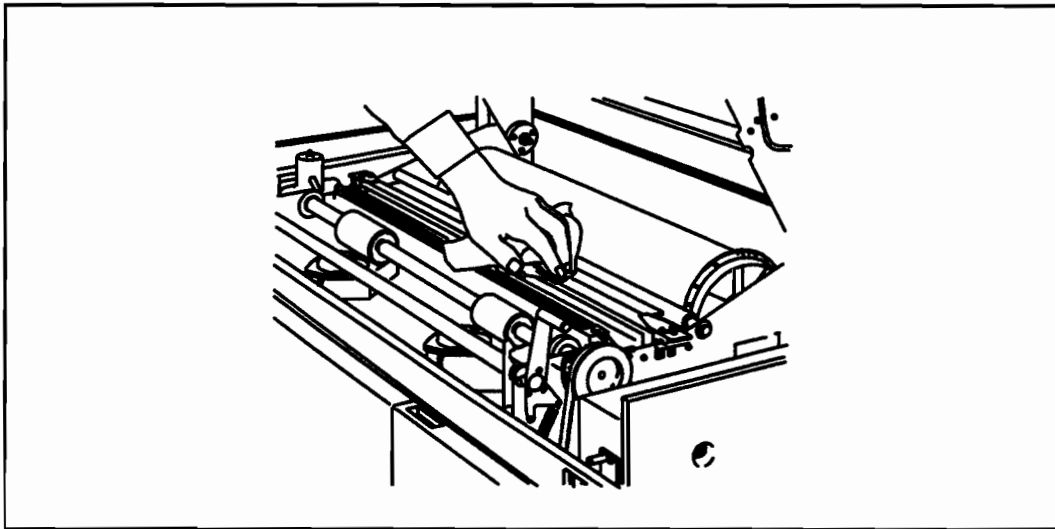

Figure 4-1. Head Cleaning
2. Using the wipe, apply the polish to the entire length of the writing head. See Figure 4-1.